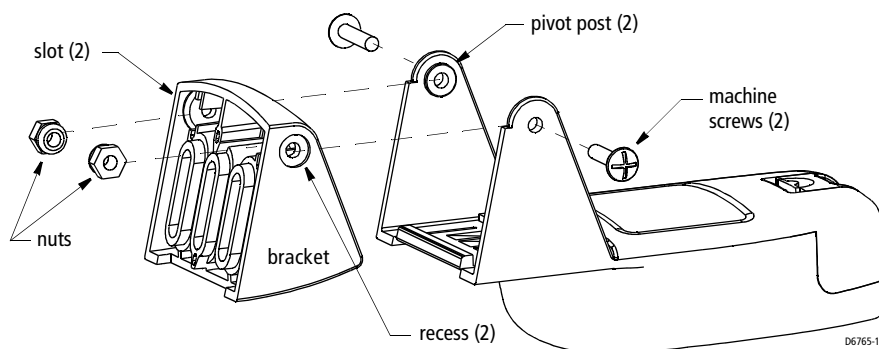

Figure 2-8: Assembling the Transducer
1. Insert the transducer's pivot posts into the recesses on the sides of the bracket (see *Figure 2-8*).
- **Stepped transom and jet boats** (3° transom angle) —Use the shim with the tapered end *down*. *Be sure* the nuts are in the slots in the back of the bracket before applying the shim (see *Figure 2-8*).
- **Small aluminum and fiberglass boats** (20° transom angle)—Use the shim with the tapered end *up*. *Be sure* the nuts are in the slots in the back of the bracket before applying the shim (see *Figure 2-8*).